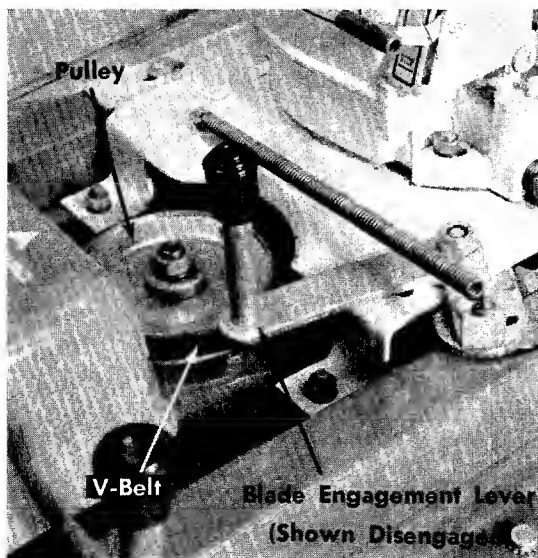
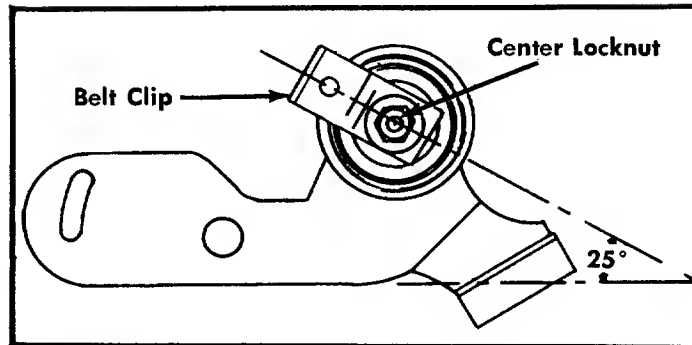

FIGURE 20 BLADE ENGAGEMENT LEVER
FIGURE 21. BELT IDLER
Step 5. Remove the belt from the transmission idler. See figure 20.
Step 5. Place the blade engagement lever in the engaged position (See figure 20.) and loosen the center locknut on the blade idler. See figure 21.
Use a ½" open end wrench. When installing the new belt be sure the belt clip is in the same position as shown in figure 21.